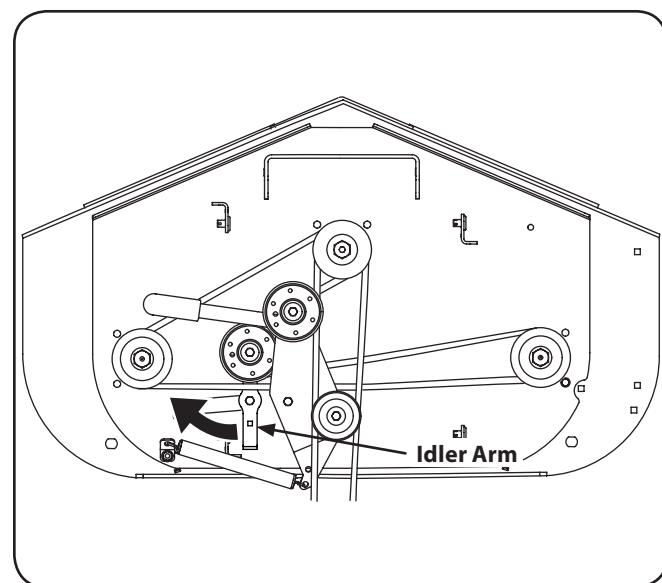

Figure 7-3
- Using a $\frac{1}{2}$ " socket breaker bar or socket ratchet insert the male end into the $\frac{1}{2}$ " square opening in the lower idler arm assembly and pull the idler arm clockwise. See Fig. 7-3. While holding the idler arm back, loosen the deck belt from the pulley and slide the belt away from the pulley.